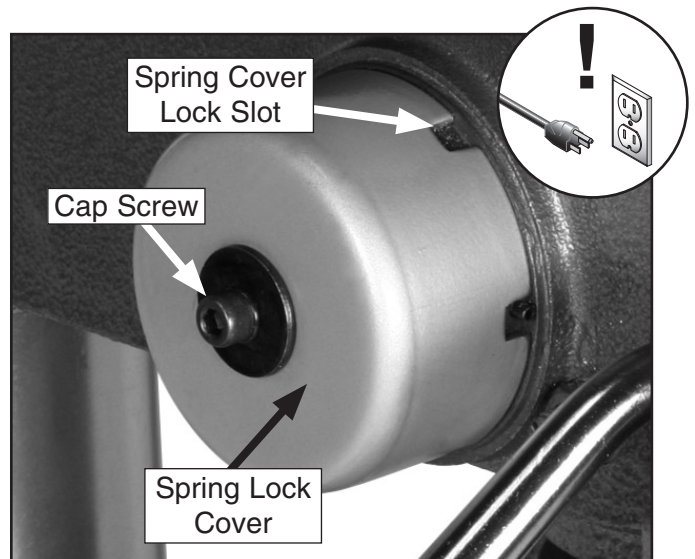

Figure 28. Return spring assembly.
2. Wipe off any oil on the spring lock cover so it does not slip in your fingers when you hold the cover from spinning (see **Figure 28** for spring lock cover identification).